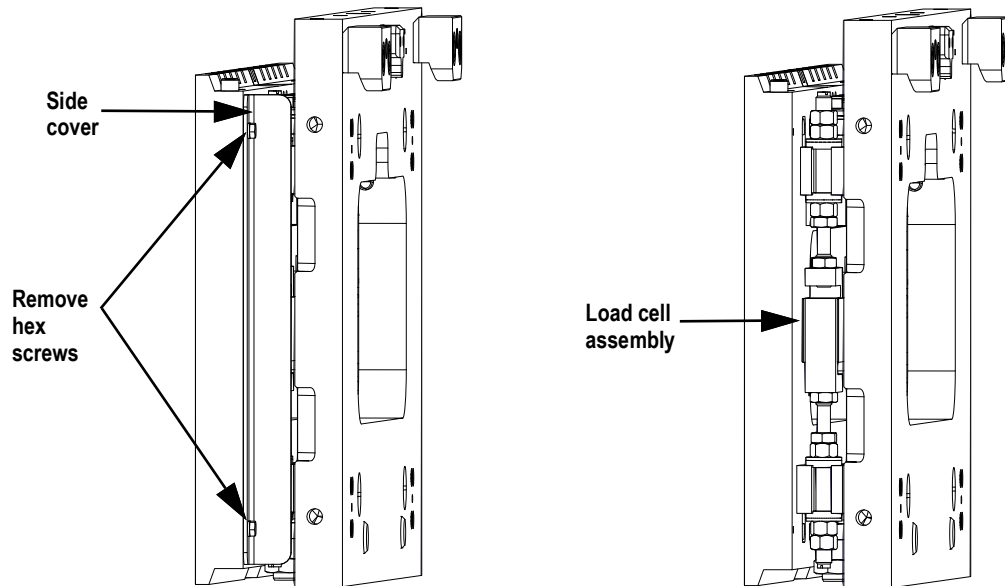

Figure 7-2. Load Cell Assembly Location
4. Remove the two hex screws securing the protective side cover (see Figure 7-2) with a 7/16 in socket wrench.